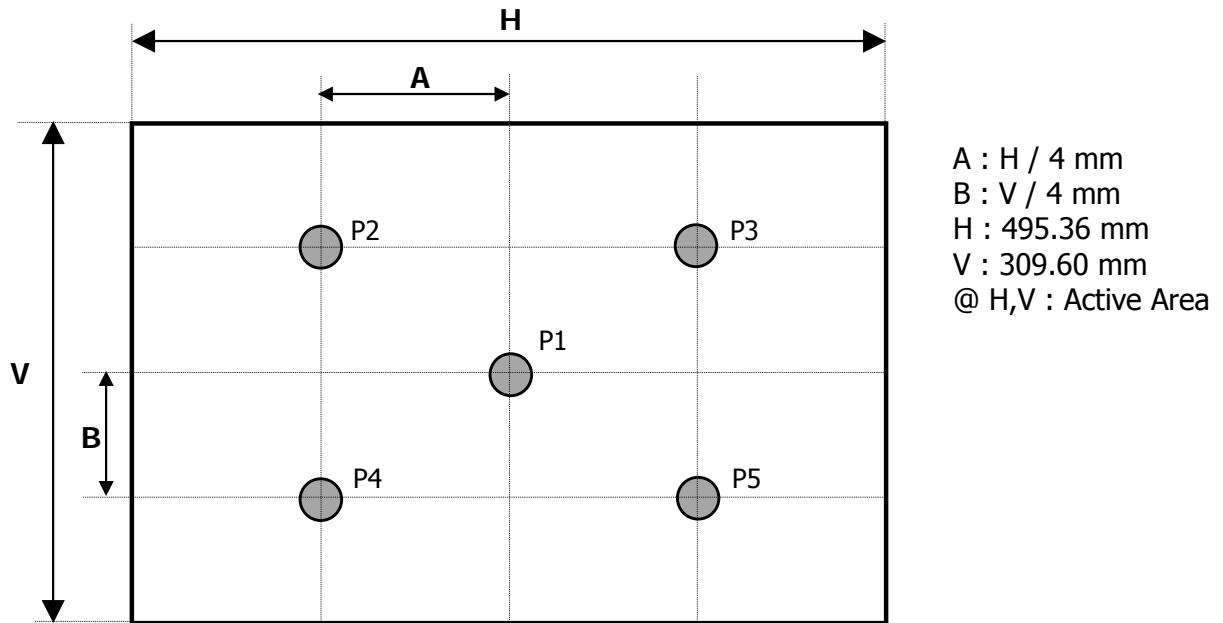

FIG. 2 Measure Point for Luminance
2. Surface luminance(L_{WH})is luminance value at center point(P1) across the LCD surface 50cm from the surface with all pixels displaying white. For more information see FIG 2.
For more information see FIG 2.